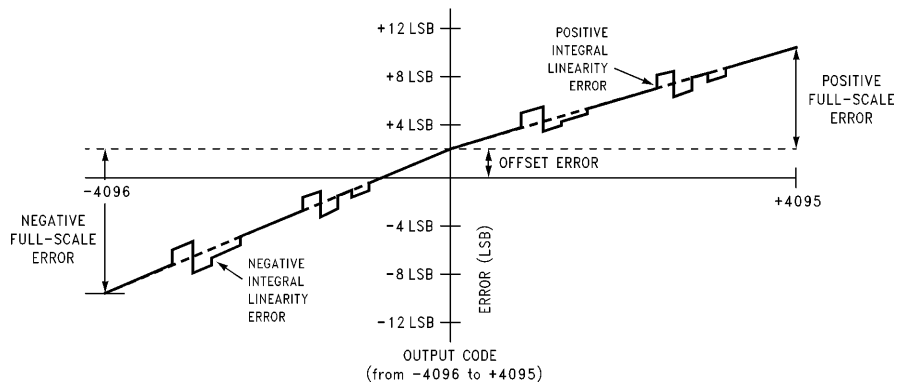

FIGURE 1b. Simplified Error Curve vs Output Code without Auto-Calibration or Auto-Zero Cycles
**Note 12:** Positive integral linearity error is defined as the deviation of the analog value, expressed in LSBs, from the straight line that passes through positive full-scale and zero. For negative integral linearity error, the straight line passes through negative full-scale and zero (see *Figures 1b* and *1c*).